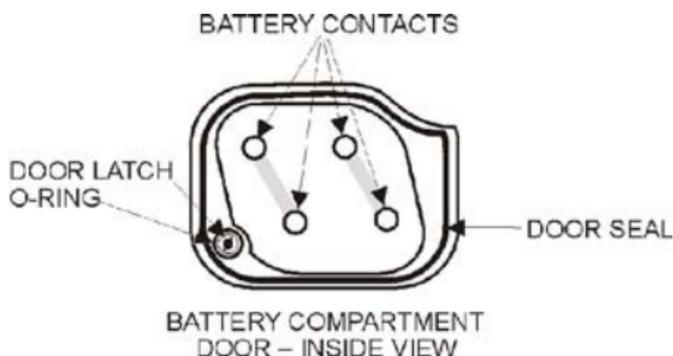

Figure 14 The Inside of the Battery Door
- Inspect the four battery contacts on the inside of the door (Figure 14). If any corrosion is seen, clean it off with a pencil eraser.
- Inspect the seal on the inside of the door (Figure 14); it should be whole and entire. If the seal is cracked or broken, the unit may no longer be watertight.
- Inspect the O-ring seal around the door latch's post (Figure 14). If the seal is cracked or broken, the unit may no longer be watertight.